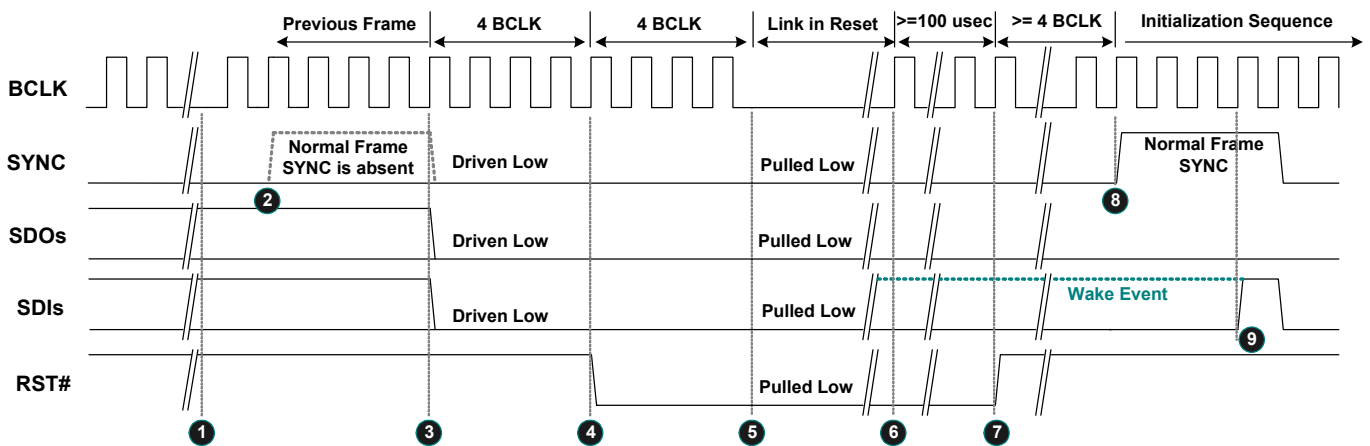

Figure 14. Link Reset Timing
3. Software initiates power management sequences. Figure 14, page 20, shows the 'Link Reset' timing including the 'Enter' sequence (❶~❺) and 'Exit' sequence (❻~❾)